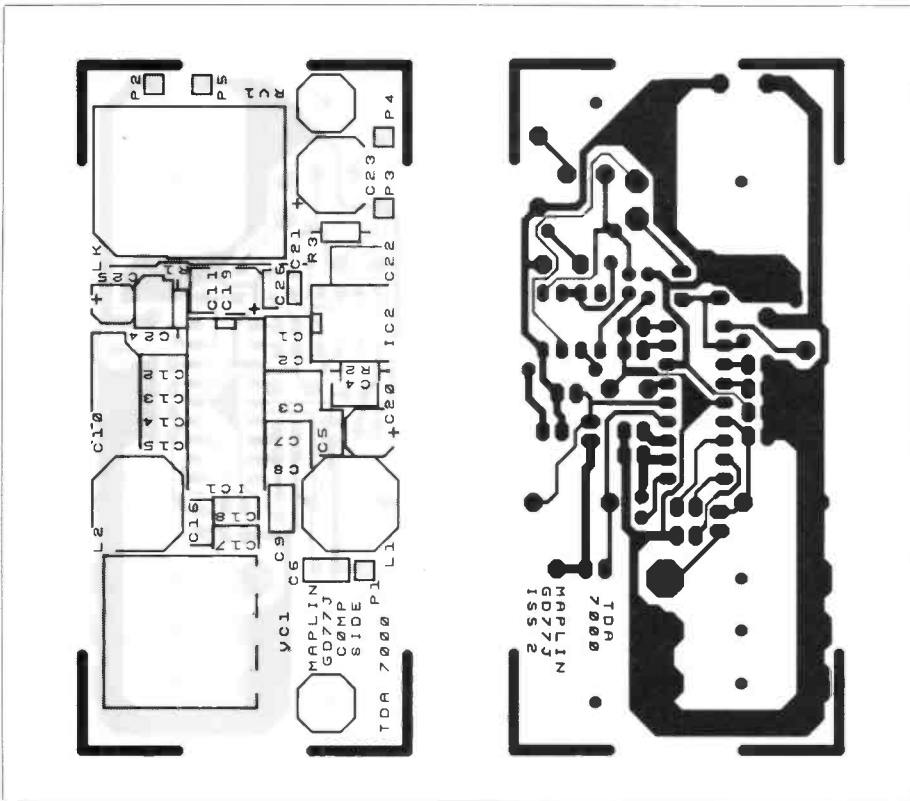

Figure 4. Track and Layout of the PCB
A suitable printed circuit layout for the radio appears in Figure 4. The TDA7000 is not one of the many radio IC's that tend to be unstable at every opportunity, and the low IF eliminates problems with harmonics of the clipped IF
The sequence in which the components are fitted is not critical. However, the following instructions will be of use in making these tasks as straightforward as possible. It is usually easier to start with the smaller components. Begin with the pins at positions P1 to P5, then fit three more pins at RV1. Next, install the resistors, then the ceramic, polyester and electrolytic capacitors. The polarity for the electrolytic capacitors is shown by a plus sign (+) matching that on the PCB legend. However, on some capacitors the polarity is designated by a negative symbol (-) in which case the lead nearest this symbol goes away from the positive sign on the legend. **IMPORTANT!!** do not forget to fit the wire link (LK) on the PCB. Using a short length of insulated hook-up wire, connect one end at the hole near R3 and the other to the hole near C25, see Figure 4. Next, install the two IC's ensuring that you fit the appropriate IC in each position, matching the notch with the block on the legend. When fitting the two RF coils ensure that the correct colour coil is positioned as follows, red at L1 and white at L2. Also make certain that the two long plastic tags are facing each other.